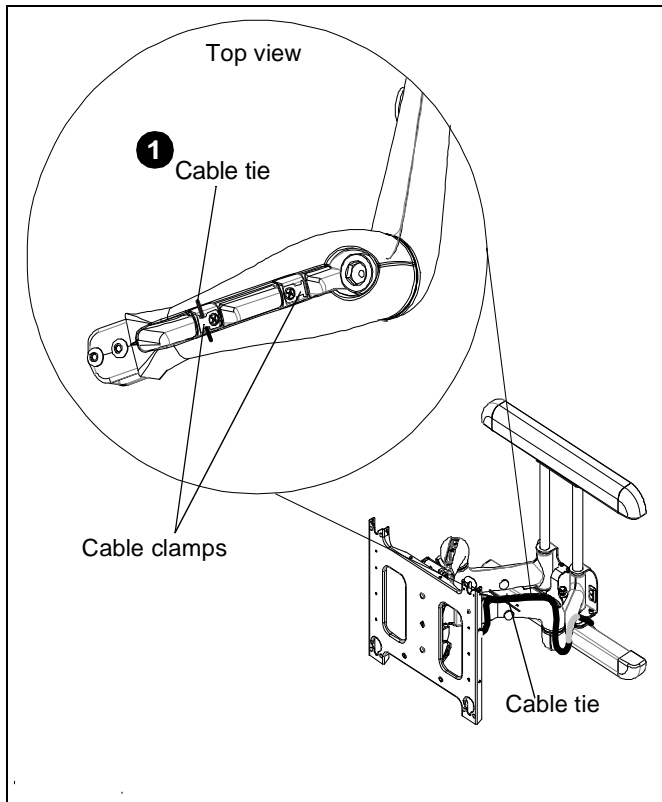

Figure 7
2. Route power/audio/video cables through the cable channel in top arm (See Figure 7), allowing sufficient slack in cables for left / right movement of display and swing arm, as well as swing arm extension and retraction.
3. Secure cables to top arm using two cable ties (J).